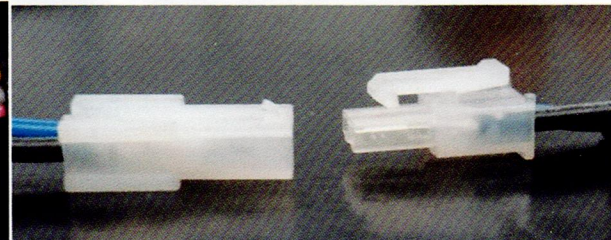

Figure. 3.6 (Optional LED light wire)
⑥ Connect the 2-core LED light connection wire on the controller with the one on the extension tube, buckle the plastic plug (optional, see Figure 3.6)
③ Connect the 2-core LED light connection wire on the motor with the one on the extension tube, buckle the plastic plug (optional, see Figure 3.6)